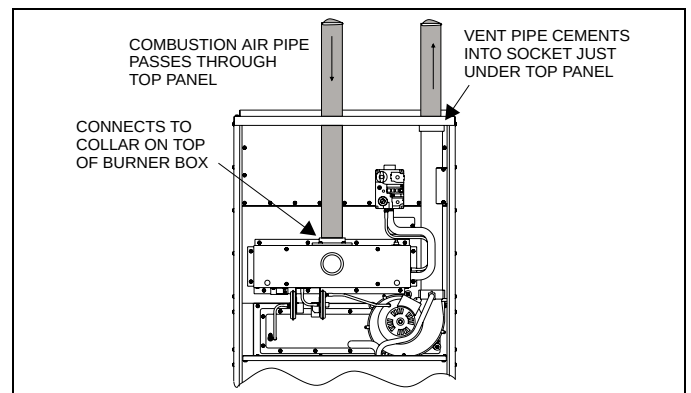
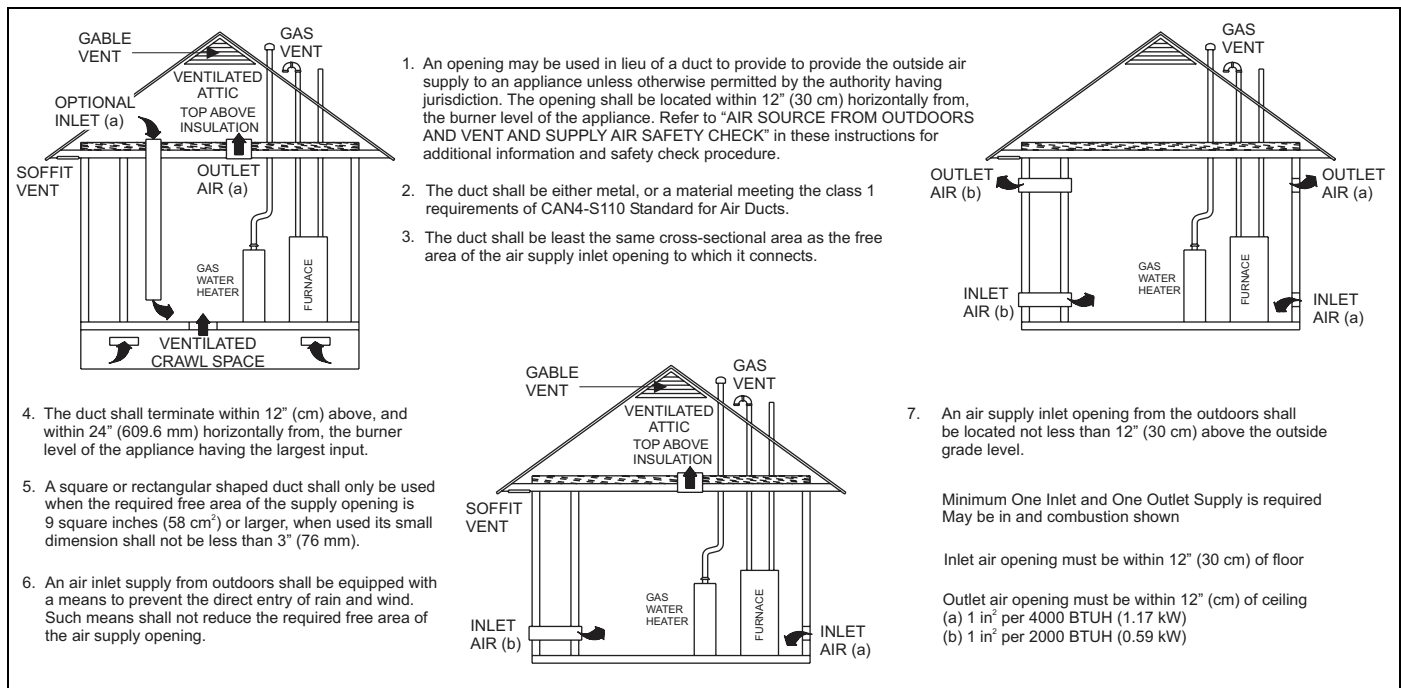

FIGURE 22: Sealed Combustion Air Intake Connection and Vent Connection
FIGURE 24: Outside and Ambient Combustion Air
The combustion airside of the two-pipe configuration shown in Figure 24 can be installed so the combustion air pipe terminates as described in outdoor combustion air or ventilated combustion air sections in these instructions. Follow the instructions for outdoor combustion air or ventilated combustion air and the instructions for installing the vent system with the vent terminating as shown in Figures 22 or 23. The two-pipe system must have a separate combustion air pipe and a separate vent pipe for each furnace. Under NO circumstances can the two combustion air or vent pipes be tied together. The combustion air and vent pipes must terminate in the same atmospheric zone.
1. **OUTDOOR COMBUSTION AIR:** This is a sealed combustion air configuration where the combustion air is supplied through a PVC or ABS pipe that is connected to the PVC coupling attached to the burner box and is terminated in the same atmospheric zone as the vent. This type of installation is approved on all models. Refer to Figure 22.
This installation requires combustion air to be brought in from outdoors. This requires a properly sized pipe (shown in Figure 22) that will bring air in from the outdoors to the furnace combustion air intake collar on the burner box. The second pipe (shown in Figure 22) is the furnace vent pipe.